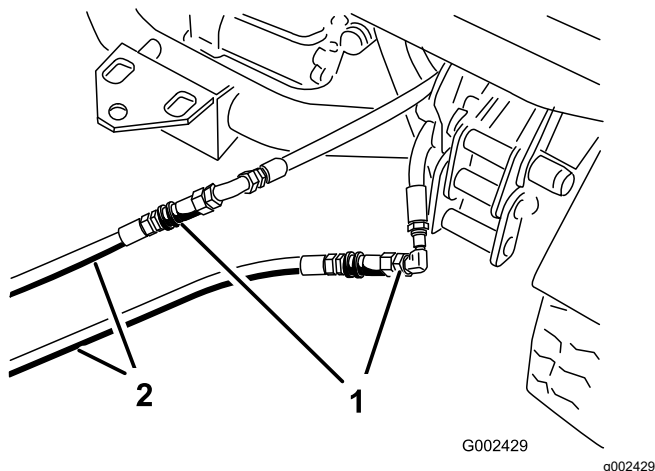

Figure 76
3. On the disabled machine, connect the 2 jumper hoses to the hoses that were disconnected (Figure 76).